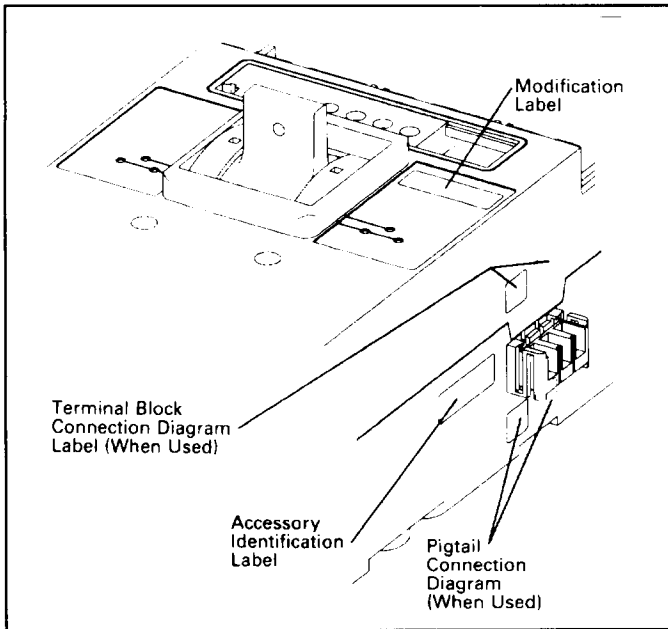

Fig. 2-5 Preferred Mounting Locations for Accessory
- 2-8. Place accessory labels (supplied with kit) on circuit breaker. (See Fig. 2-5.)